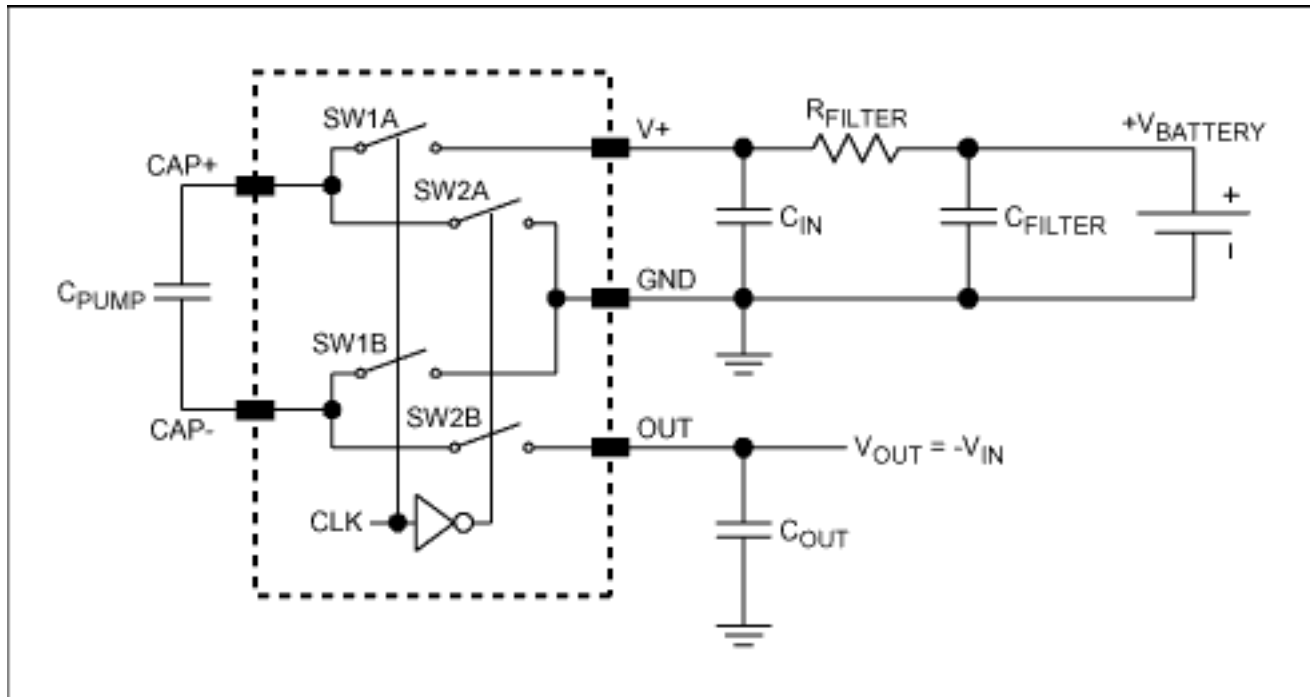

Figure 9. Battery application featuring a charge pump inverter with input RC ripple filter.
4. Adding an RC to the input supply (**Figure 9**) is a single-order version of the LC-filter approach. The RC input is not generally recommended, because the low value of R_{FILTER} required for minimal efficiency loss ($< 5\Omega$) forces a very large C_{FILTER} . **Figure 10** shows the effect of adding an RC filter at the input of the Figure 9 circuit, in which a MAX665 with 100μF capacitors generates a 5V output with a load resistance of 51Ω.
Figure 10. Input Voltage and Current Ripple for the RC-filter circuit (Figure 9): $C_{\text{IN}} = C_{\text{FILTER}} = 100\mu\text{F}$, and $R_{\text{FILTER}} = 2.2\Omega$. Charge pump is a MAX665. Input current ripple (upper trace): $100\text{mA}/\text{div}$. Input voltage ripple (lower trace): $20\text{mV}/\text{div}$, AC coupled.